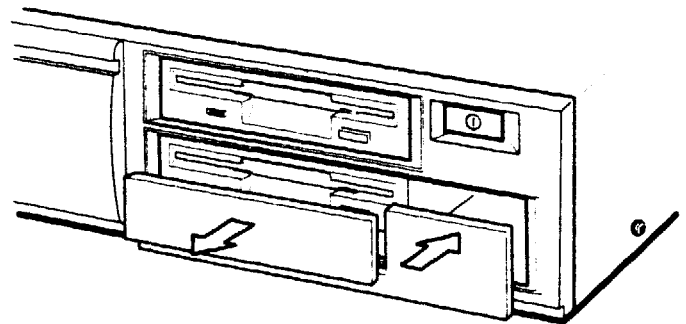

Figure 6.12: Plastic Panel Replacement
4. Detach the 3.5" segment from the plastic cover removed in Step 1. Then, having replaced the computer case, replace the rest of the cover to close the front panel of the computer. (See Figure 6.12)